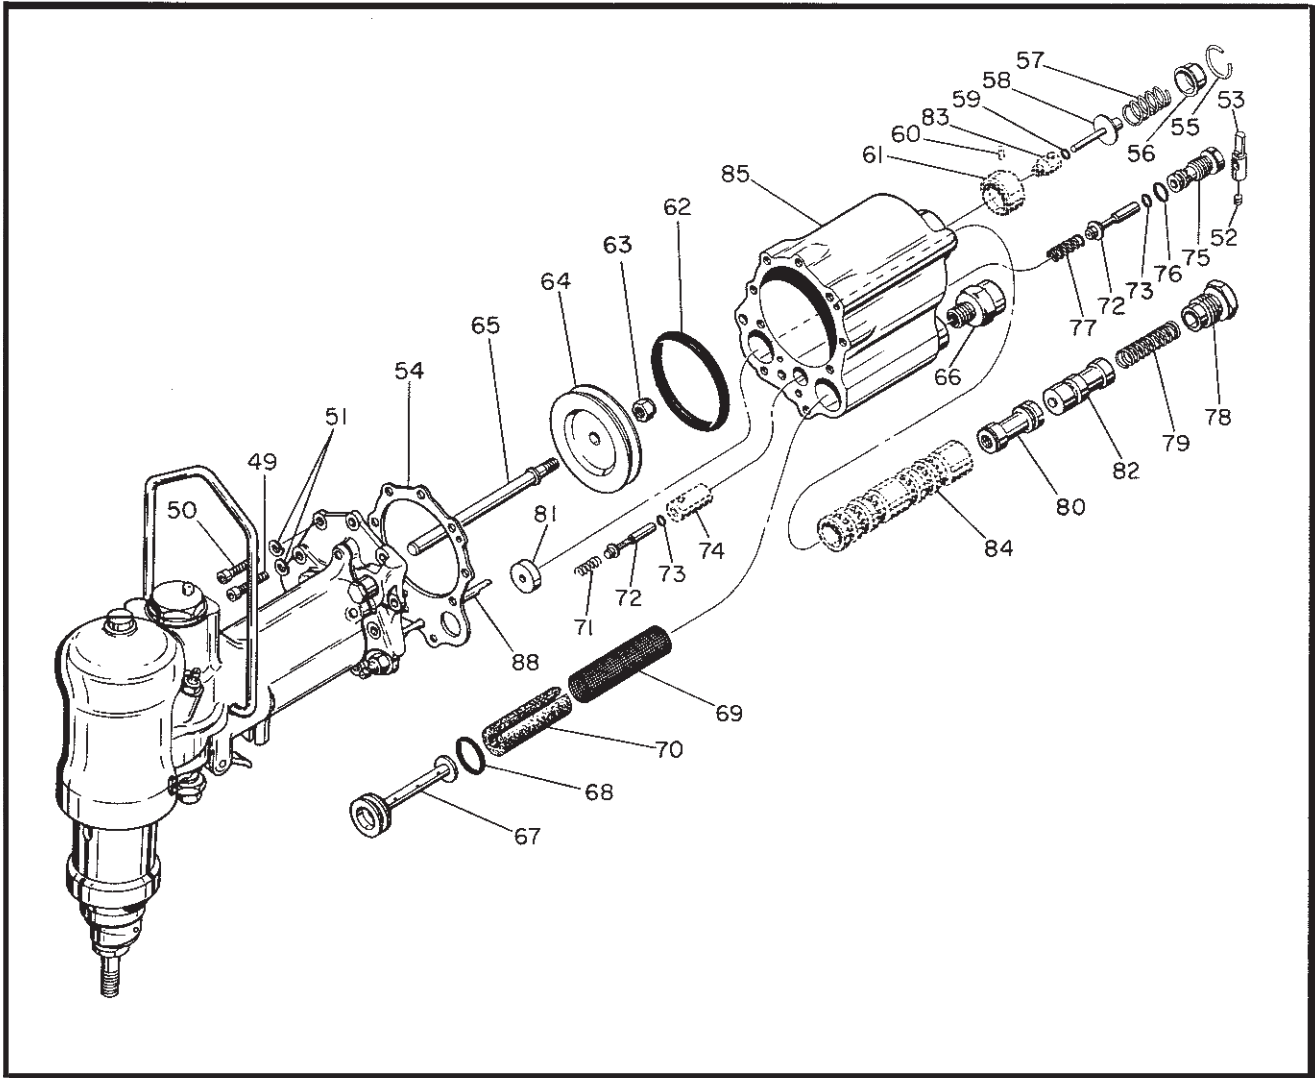
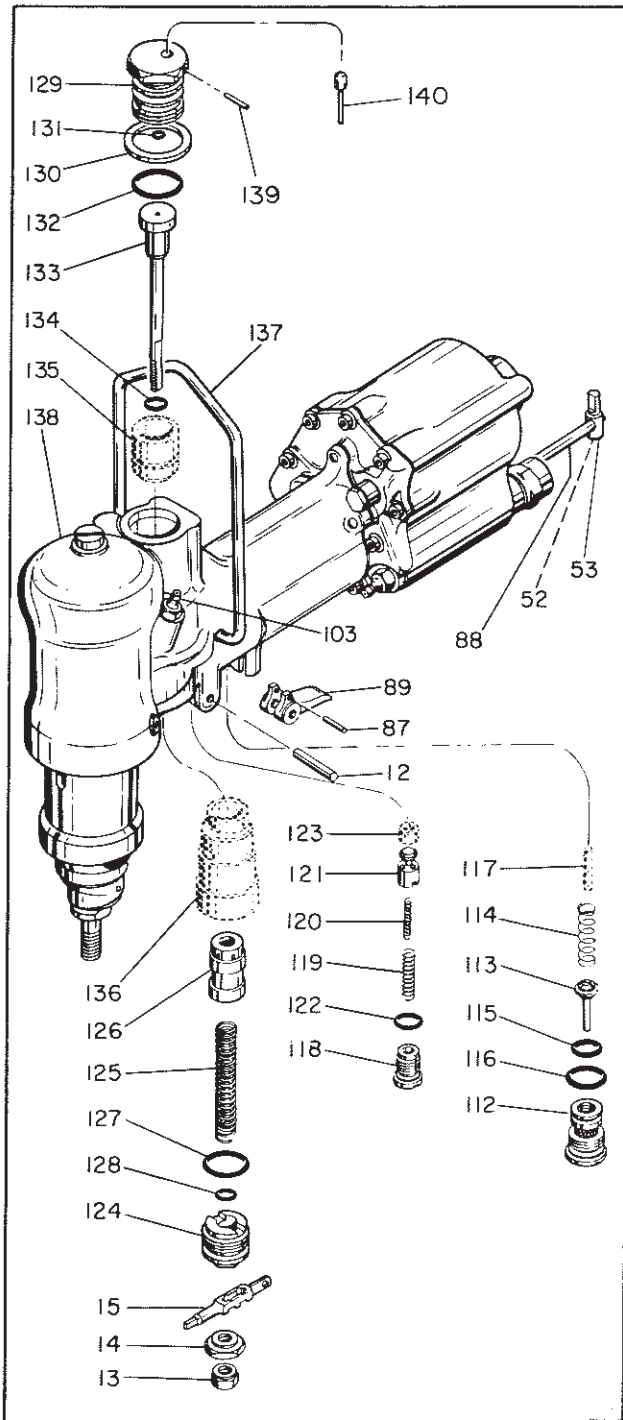

Figure 7. Pump Cylinder Group
Figure 9. Handle and Valve Group
### 3. Pump Cylinder Group. (See figure 7.)
### 5. Handle and Valve Group. (See figure 9.)
1. Do not remove the bushings, shown in phantom on the exploded views, (figures 7, 8, and 9), except when inspection reveals extensive damage or wear. To remove a particular bushing, select the thread tap and extractor, or drift, from the special tools listed in figure 10. Thread the bushing if in a blind hole. Note the alignment of all internal ports and passage ways. New bushing must match this alignment when installed. Remove all O-rings and heat the forging to 240° - 270°F. Pull out the bushing with the appropriate extractor or push out with a drift. Note that the holding piston bushing (135, figure 9) must be removed before adequate space is available for a drift to press out the pressure relief valve bushing (136).
#### 1. Handle and Valve Group. (See figure 9.)
## 3. Pump Cylinder Group. (See figure 7.)